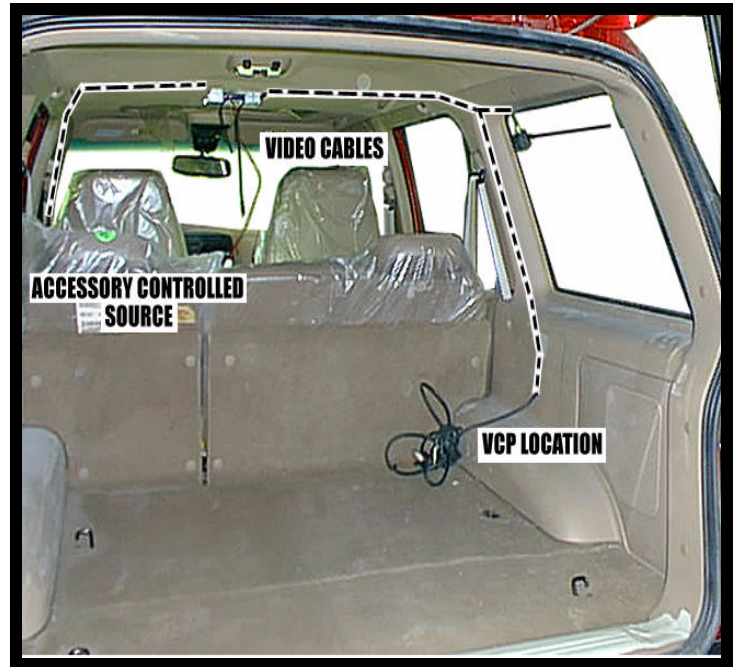

FIGURE 6
10. Secure rear of bracket using (2) two O.E. screws, previously removed.
12. Install and route all video and audio cables, and any other added component requirements to their respective places in the vehicle. Refer to component installation instructions for wiring diagrams. The suggested routing of the video system cable is as follows: Above the headliner from video system to C-pillar. Down the C-pillar to the floor. Route the power lead to an accessory controlled source. Connect the ground lead to the vehicle chassis. Route the remaining wiring (RCA plugs, Remote Sensor extension, etc.) to the VCP location. See Figure 6. Connect per instructions included with the video system. If video system is to be used as a television, install an appropriate antenna per instructions included with the antenna.